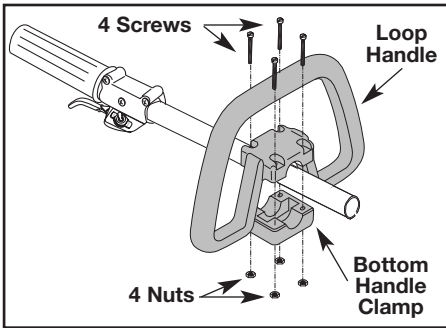

Fig. 1
1. Place the loop handle and bottom handle clamp on the boom shaft (Fig. 1).
2. Install, **one at a time**, the four (4) screws and four (4) hex nuts with a Phillips screwdriver.